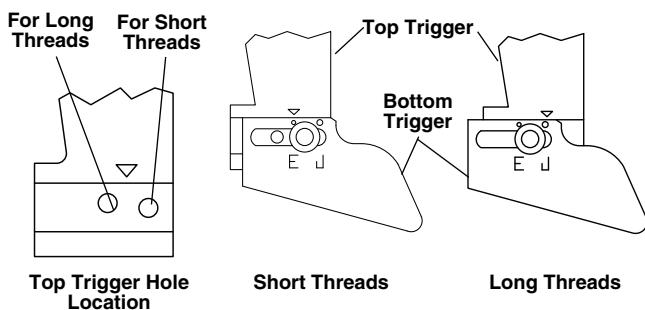

Figure 18 – Adjusting Thread Length
- For short threads, shift the bottom trigger towards the machine spindle. For long threads, shift it away from the spindle (see Figure 18 – factory settings shown). Long threads are typically preferred in Far East and short threads in Europe. Set as desired.